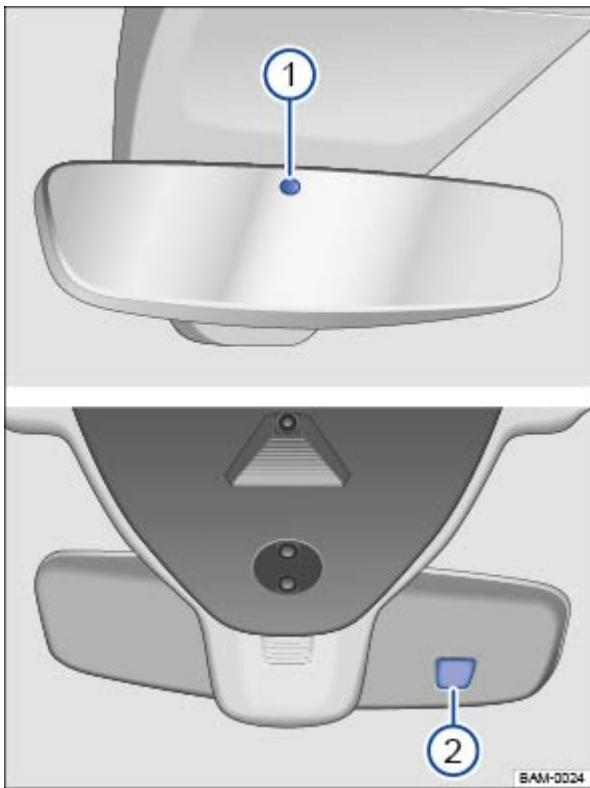

Fig. 96 On the windshield: Self-dimming rearview mirror.
When the ignition is switched on, the sensors on the mirror measure the amount of light shining into the vehicle from the front ⇒ Fig. 96② and the rear ⇒ Fig. 96① of the vehicle.